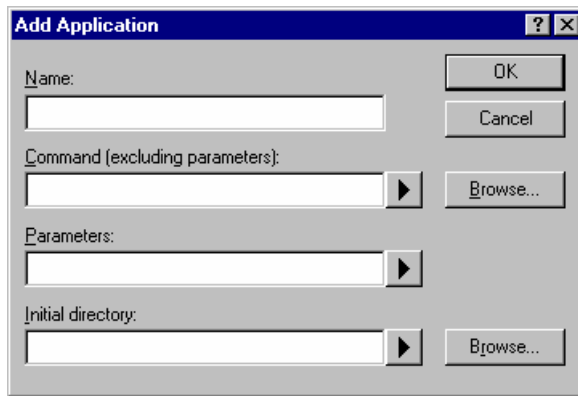

Figure 2.13: Add Application Dialog
4. Click “Add...” to define a new application. The “Add Application” dialog will be displayed (figure 2.13).